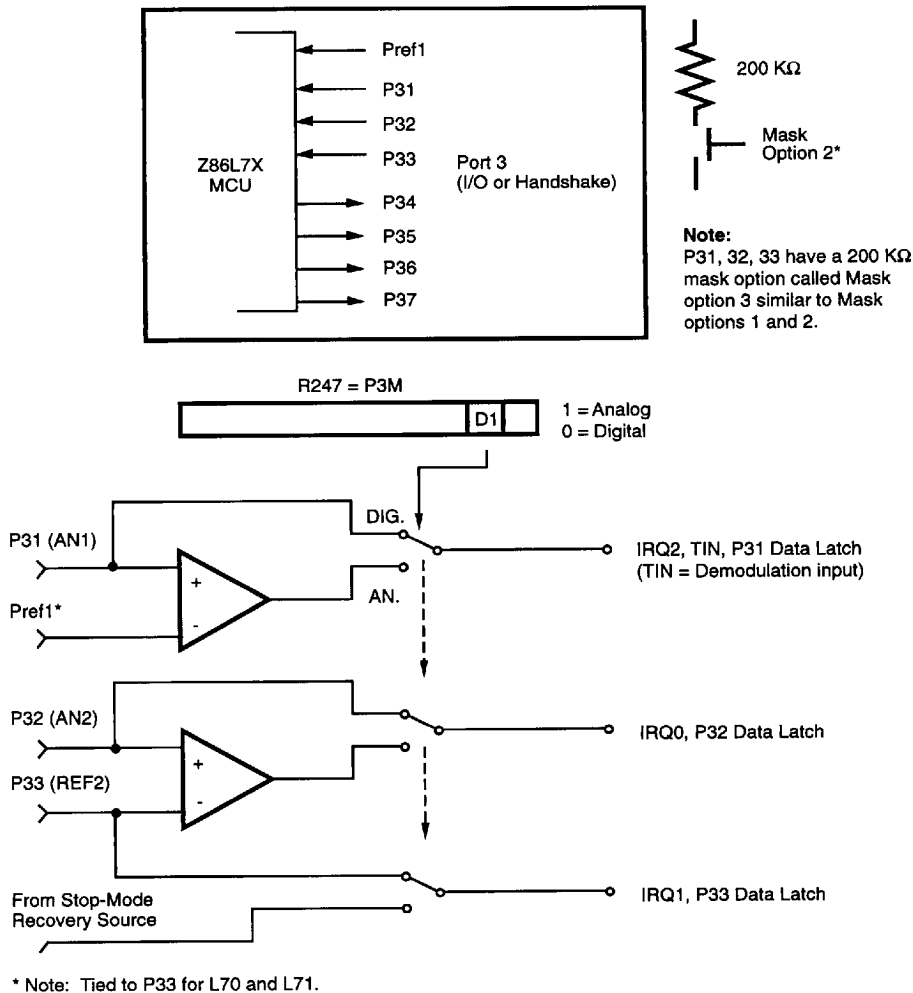

Figure 12. Port 3 Configuration
**Comparator Inputs.** Port 3, P31 and P32 all have a comparator front end. The comparator reference voltages are on P33 and Pref1. The internal P33 register and its corresponding IRQ1 is connected to the Stop-Mode Recovery source selected by the SMR. In this mode, any of the Stop-Mode Recovery sources can be used to toggle the P33 bit or generate IRQ1. In digital mode, P33 can be used as a Port 3 register input or IRQ1 for P33 (Figure 12).